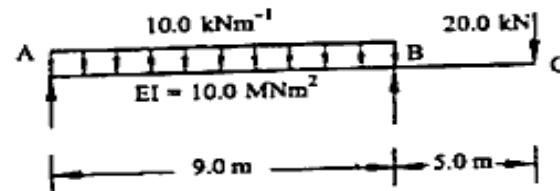

Figure 2 (आकृति 2)
6. a) Construct shear and bending moment diagrams for the loaded beam shown below in the Figure 2.